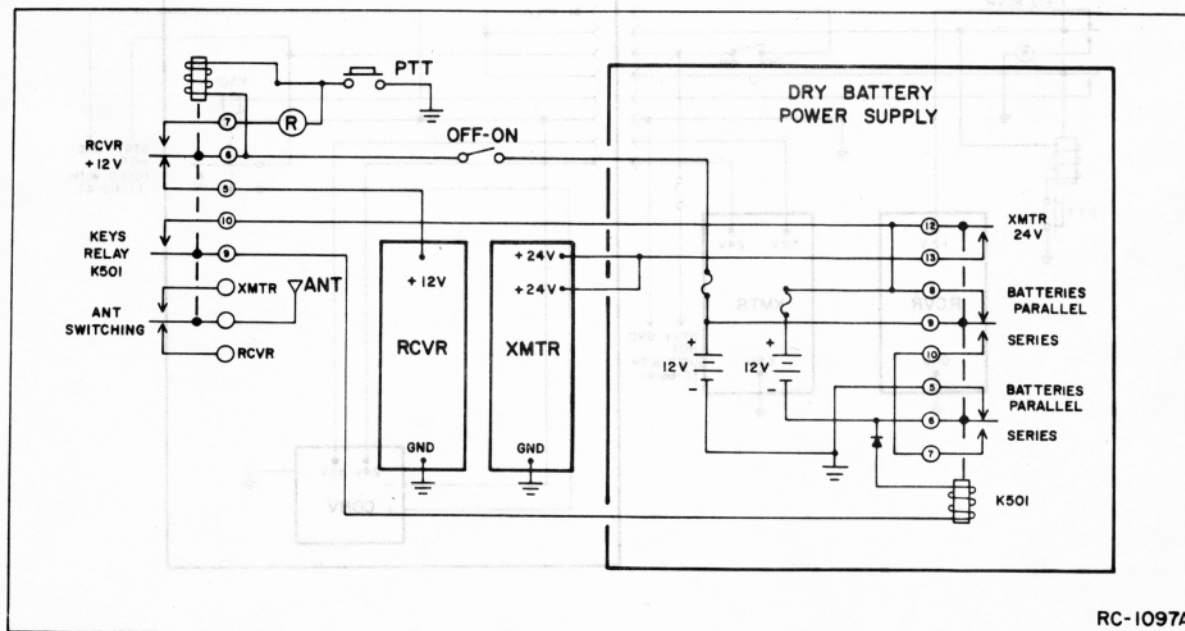

Figure 4 - Antenna Switching and Power Distribution for Dry Battery Supply
**DRY BATTERY SUPPLY (Figure 4)**
Diode CR501 prevents the transmitter from keying if the batteries are inserted into the power supply incorrectly (polarity reversed). Figure 4 is the antenna switching and power distribution diagram for the dry battery supply.